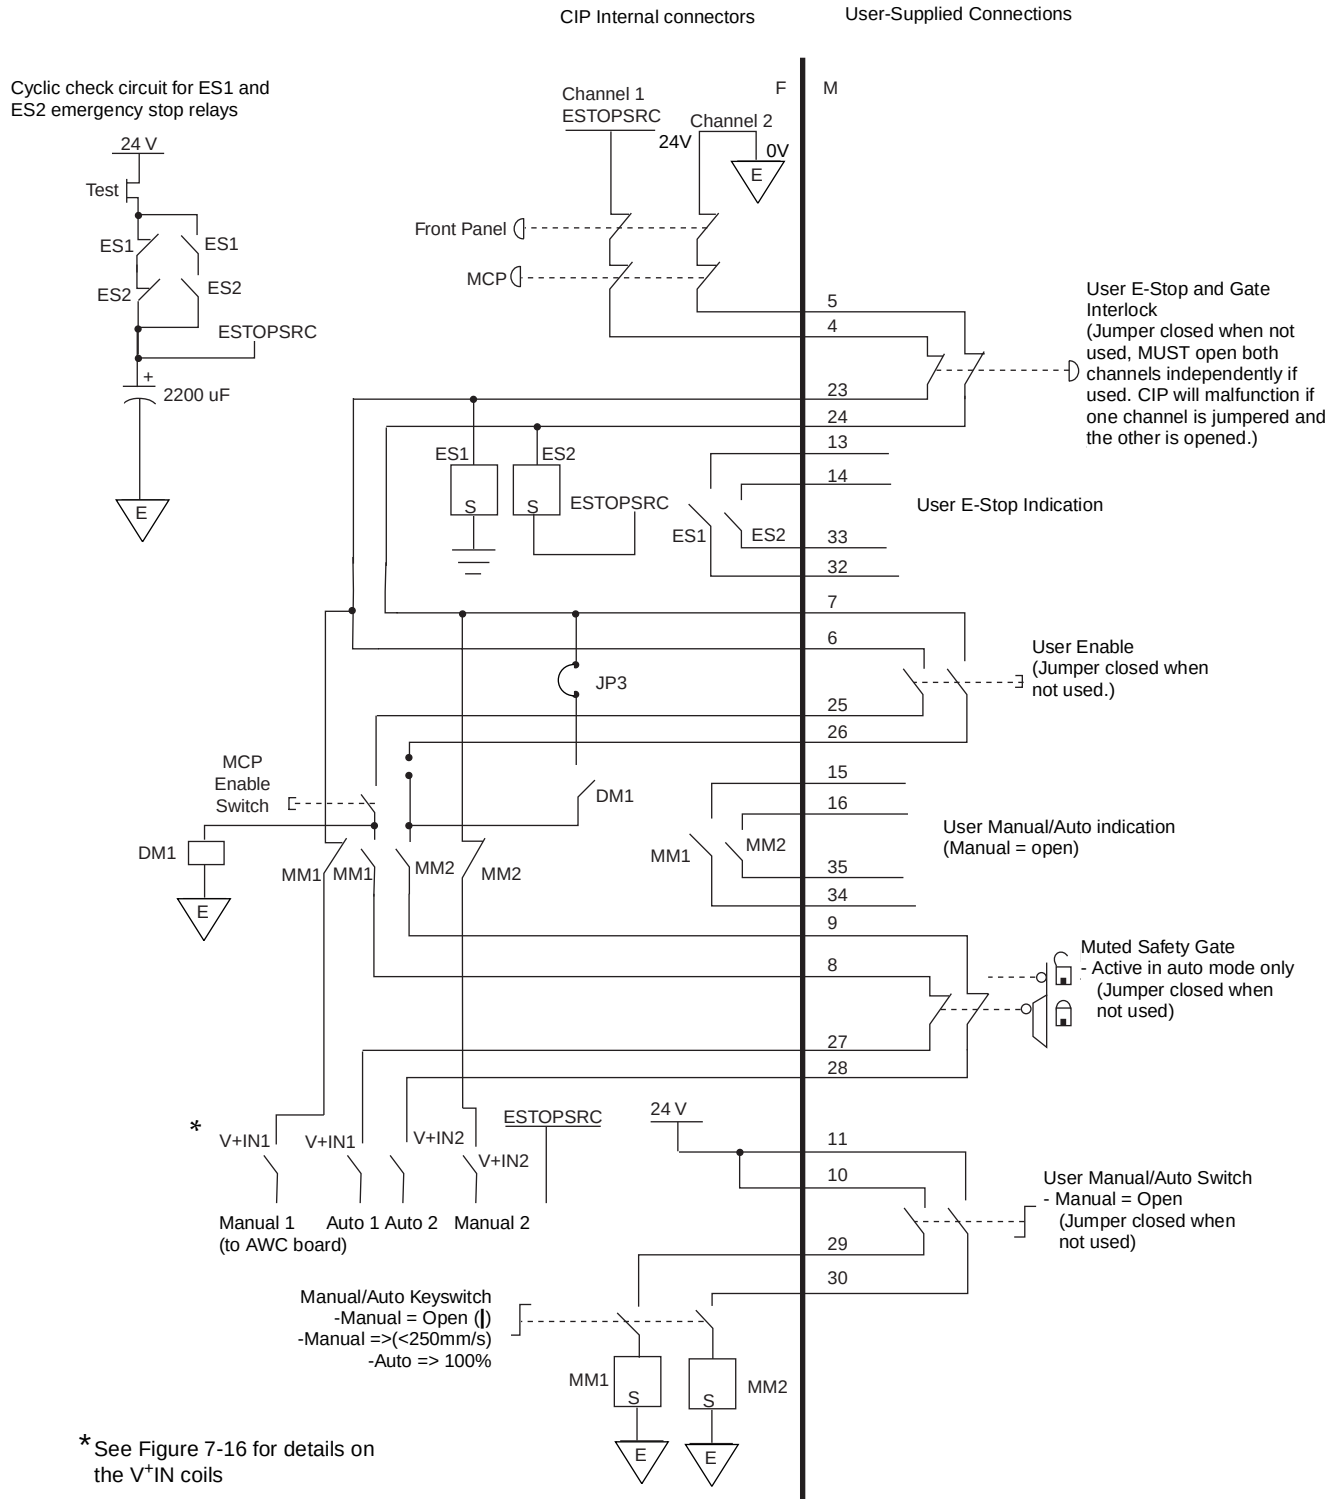
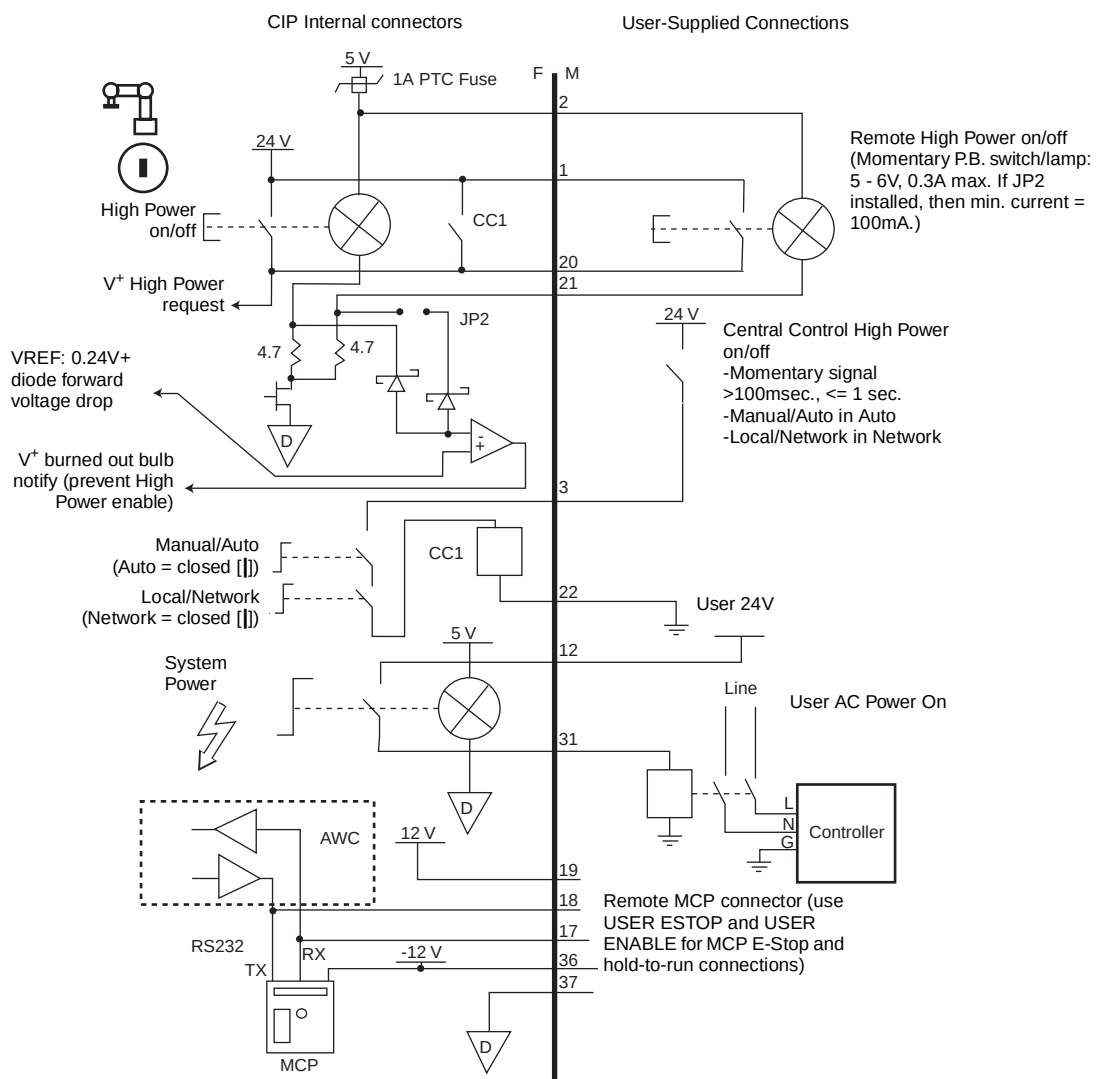
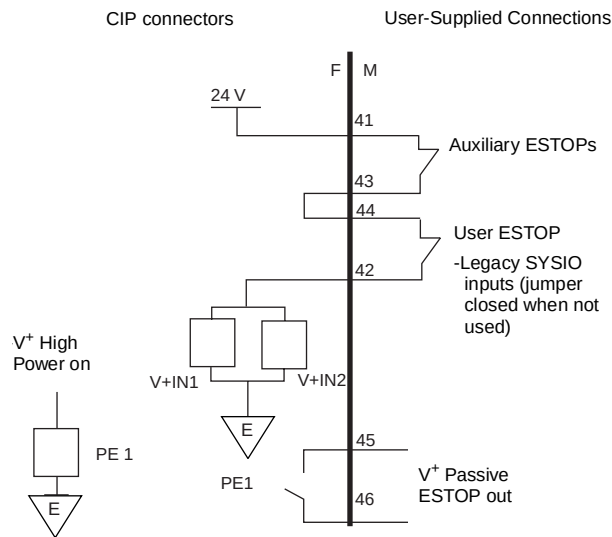

Figure 7-14. JUSER 37 Pin D-sub Connector
Figure 7-15. J-User 37 Pin D-sub Connector
**Figure 7-16. JSIO Emergency Stop Circuit**
The connection of the customer-supplied safety and power control equipment to the CIP is through the JUSER connector. This connector is a 37-pin female D-sub connector located on the side panel of the CIP. Refer to Table 7-10 and Table 7-11 for the JUSER pin-out explanations. See Figure 7-14 and Figure 7-15 for the wiring diagram
The JSIO connector provides a single channel E-Stop that controls two relays in the CIP. This E-Stop is for compatibility with legacy applications using the 50-pin connector on the SIO board. These JSIO pins are 41 to 43 and 42 to 44 (see Figure 7-14, Figure 7-15, Figure 7-16, and Table 7-10 for the customer E-Stop circuitry). The two required connections will be arranged in series.
These voltage-free contacts are provided by a redundant, cyclically checked, positive-drive, safety relay circuit for EN-954-1 Category 3 operation (see Figure 7-14, Figure 7-15, and Table 7-10 for the customer emergency stop circuitry).
The two pairs of pins on the JSIO connector (pins 41, 42 and 43, 44) provide connections for user and auxiliary emergency stop circuitry (see Figure 7-14, Table 7-10, and Table 7-11 for the customer emergency stop circuitry).
The CIP also provides a connection for a user-supplied Manual Mode circuit (see Figure 7-14, Figure 7-16, Table 7-10, and Table 7-11 for the customer Manual Mode circuitry).
The CIP provides connections for a remote user panel circuitry that allows a second user panel at another location (see Figure 7-14, Figure 7-15, Table 7-10, and Table 7-11 for the customer remote user panel circuitry).
The CIP also provides a connection for an additional user-supplied High Power enable circuit (see Figure 7-14, Figure 7-15, Figure 7-16, Table 7-10, and Table 7-11 for the customer High Power circuitry). The CIP has two different methods of remote operation of the High Power push button located on the CIP. These connections are optional.
The CIP also provides a connection for a user-supplied system power circuit (see Figure 7-14, Figure 7-15, Table 7-10, and Table 7-11 for the customer system power switch circuitry).
The CIP also provides a connection for a user-supplied MMSP circuit (see Figure 7-14, Figure 7-15, Table 7-10, and Table 7-11 for the customer MMSP circuitry).
For the following remote MCP connections see Figure 7-14 and Figure 7-15, and refer to Table 7-10 and Table 7-11 for the customer remote MCP circuitry.
**NOTE:** The MCP III uses only one switch channel for the Enable function. (The MCP E-Stop button uses two channels.) The MCP Enable switches E-Stop channel 1 directly while channel 2 is switched by a sense relay (DM1 in Figure 7-14).